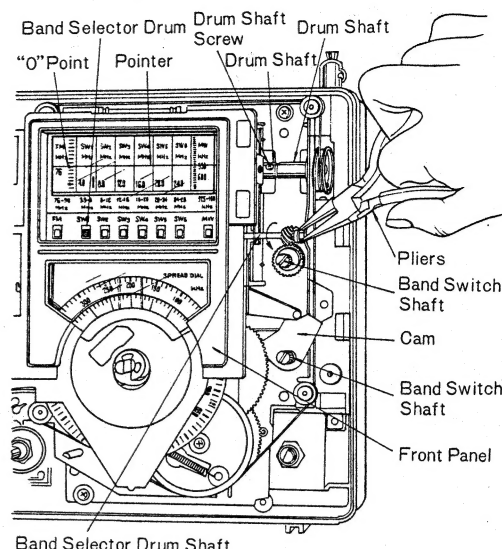
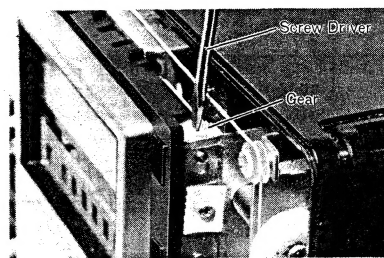

Fig. 8
Fig. 12
2. Set the band switch shaft of dial drive assembly at the position, as shown in fig. 8.
3. Set the "0" point of dial scale to pointer of front panel, as shown in fig. 8.
6. Turn the shaft of band selector drum with a pliers and set the indicator of band selector drum to "SW₁" position, as shown in fig. 8.
3. Loosen the one (1) screw for the drum shaft, as shown in fig. 8.
8. Turn the roller gear, shown in fig. 12 and set the "0" point of dial scale to the pointer of front panel, as shown in fig. 8. Tighten the one (1) screw for the drum shaft, as shown in fig. 8.